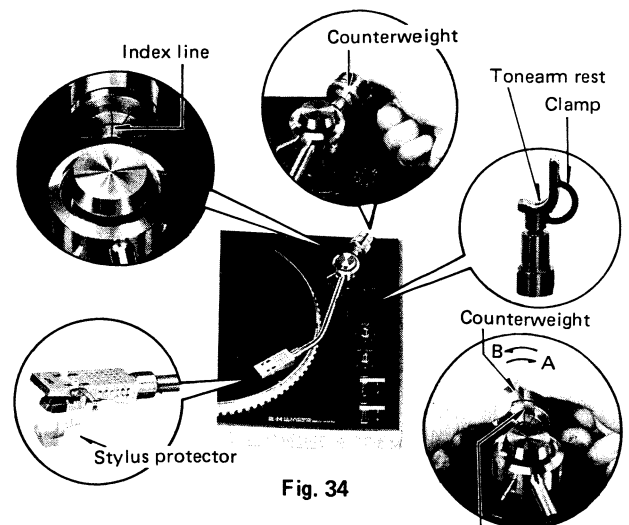

Fig. 34
10-(6) Tracking Force Adjustment (Fig. 34)